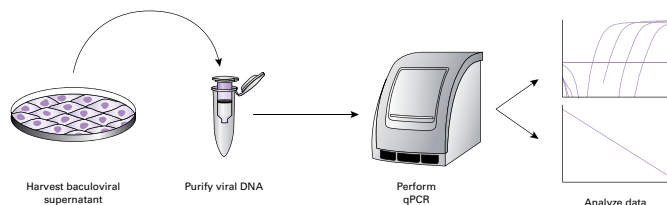

Figure 1. The BacPAK qPCR Titration Kit protocol.
Figure 1. Identification of infection foci in a lawn of Sf21 cells, using the BacPAK Baculovirus Rapid Titer Kit. Cells were immunostained with the gp64 primary antibody and an HRP-conjugated secondary antibody, and visualized by light microscopy.
HRP-conjugated antibody enables you to visualize infected cells by light microscopy and determine viral titer. Representative results are shown in Figure 1.
The **BacPAK qPCR Titration Kit** provides an extremely fast and simple method for titrating your viral stocks. The kits use a quick DNA purification step before determining viral genome content using qPCR and SYBR® technologies (Figure 1). Whereas standard titration methods require up to 10 days to complete, this titration kit requires only 4 hours and works with any AcMNPV-based baculoviral vectors. Using qPCR dramatically shortens the time interval between viral harvest and target cell infection, allowing you to perform both on the same day. This means that you can avoid delays that lead to reduced viral infectivity and can infect target cells at a known multiplicity of infection (MOI) for more consistent results (1).